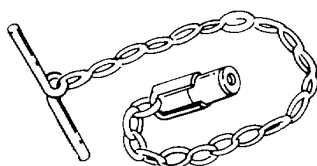

Figure 7-9. Valve Stem Fishing Tool
**7-5. Valve Stem Fishing Tool.** The valve stem fishing tool, shown in figure 7-9, consists of a chain with a cap fastened to one end and a small T-handle fastened to the other end. The cap is threaded to fit a valve stem. When replacing tires on wheels this tool is used in order to prevent the valve stem from slipping inside the tire.